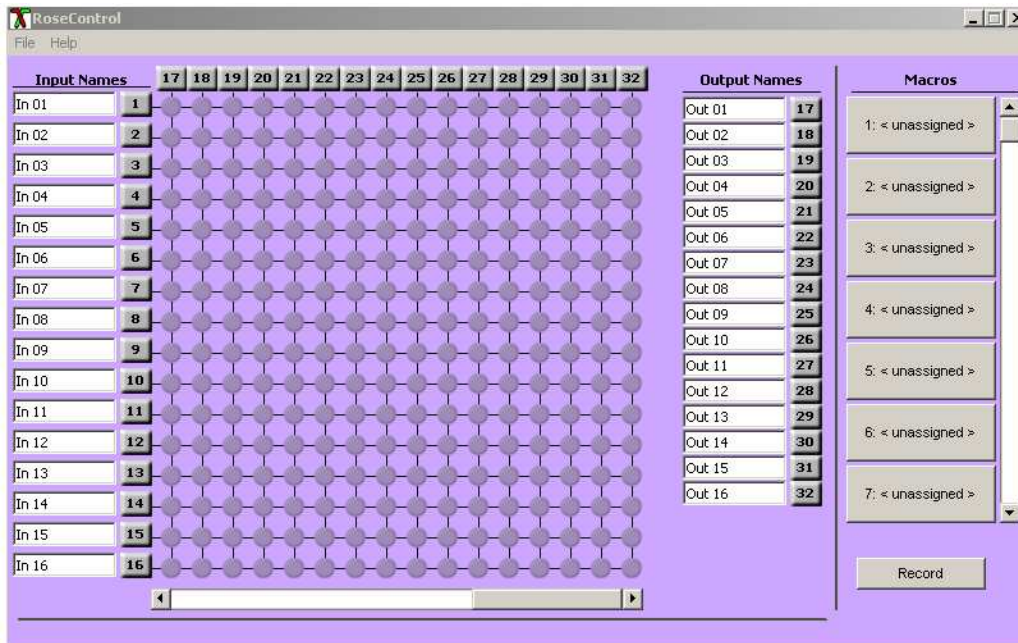

Figure 6. RoseControl 16x32
9. When all fields are set to the correct values, click on the “OK” tab. The matrix OSD will display as shown in Figure 6